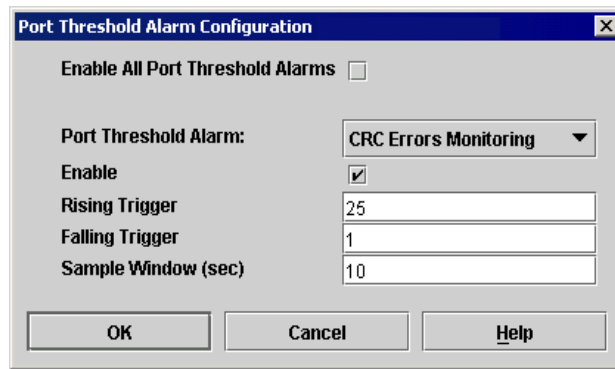

Figure 4-7. Port Threshold Alarm Configuration Dialog
1. In the faceplate display, open the Switch menu and select **Port Threshold Alarm Configuration**. The Port Threshold Alarm Configuration dialog shown in Figure 4-7 prompts you to enable or disable all alarms, select an event, set triggers, set a sample window and enable or disable an individual alarm.